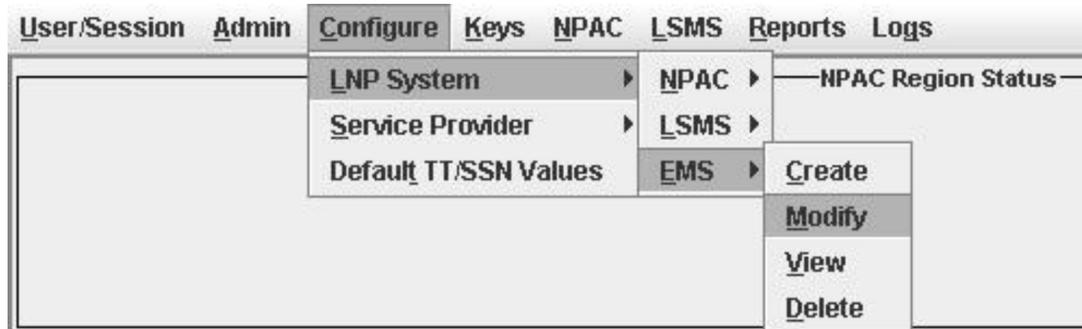

Figure 54: LNP System Menu – Modify EMS
3. From the **Main Menu**, select **Configure** > **LNP System** > **EMS** > **Modify**, as shown in *Figure 54: LNP System Menu – Modify EMS*.